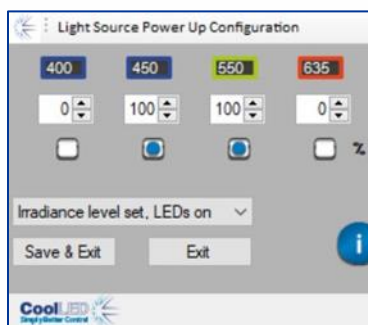
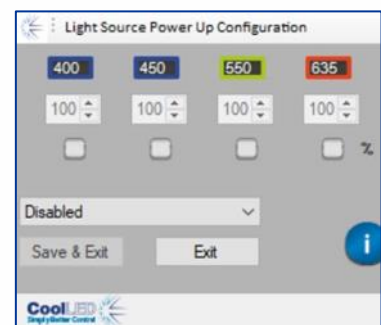

Figure 18
Figure 20
3. Select the Light Source power-up state using the dropdown box (see Figure 18 to Figure 20).